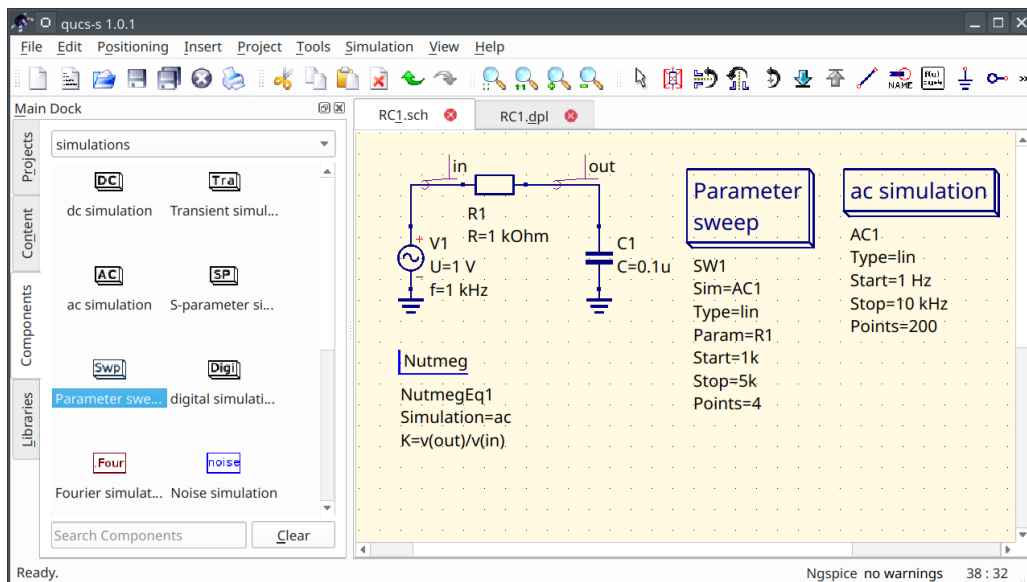

Figure 13: Adding parameter sweep on the schematic
- **Step 1:** Place parameter sweep component on the schematic sheet (Figure 13). The *Parameter sweep* device could be found in the *simulations* group.